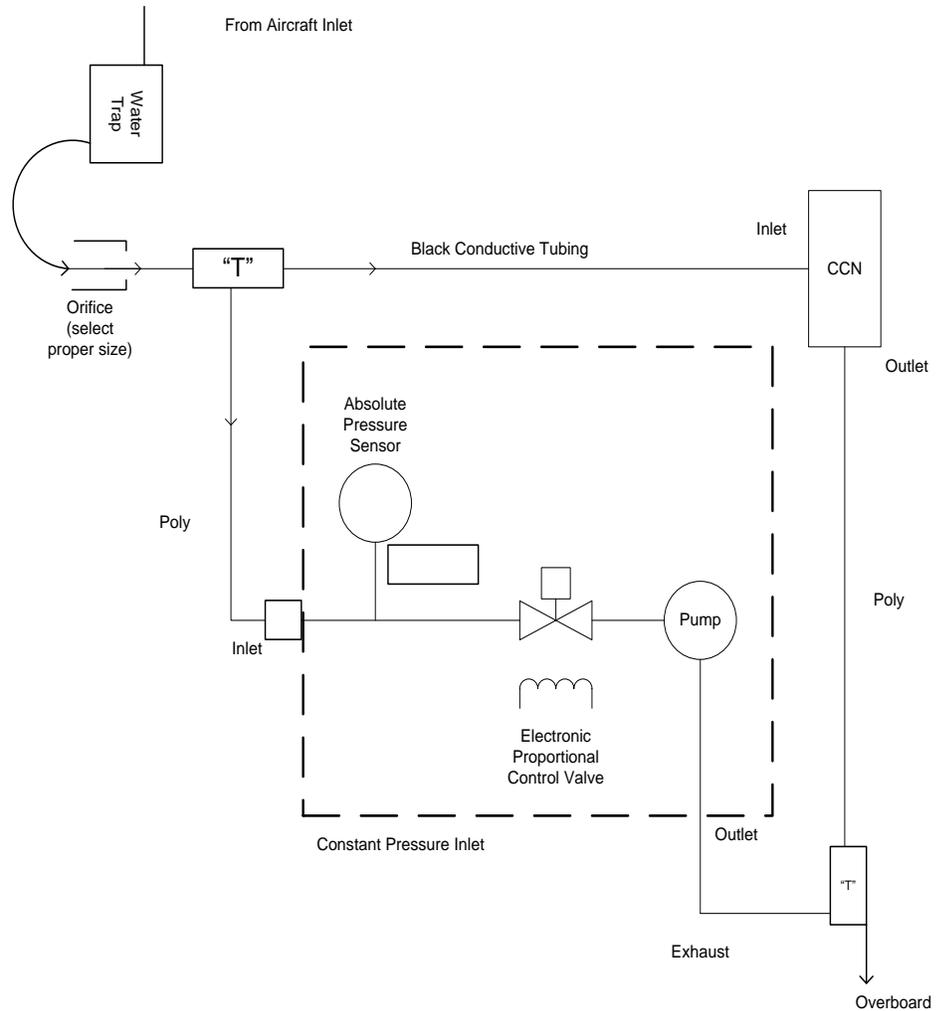
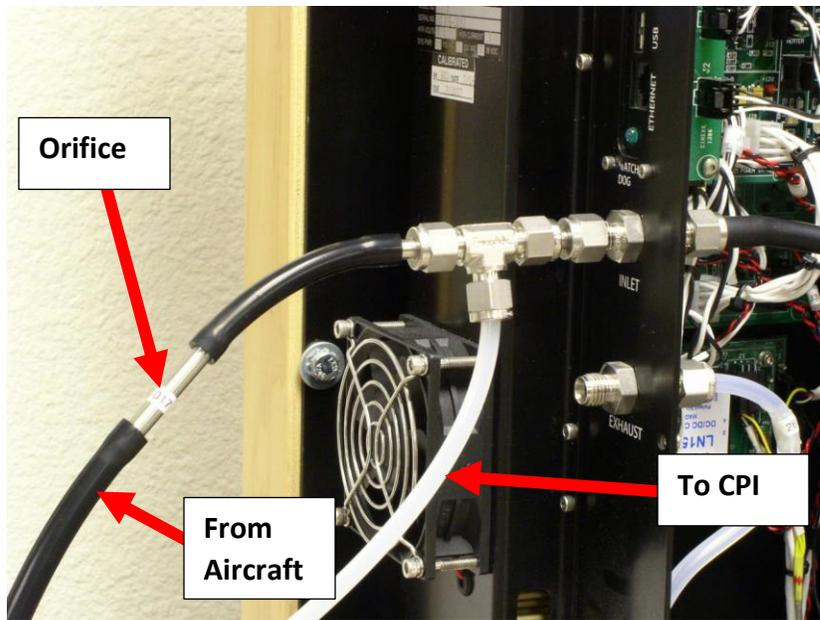
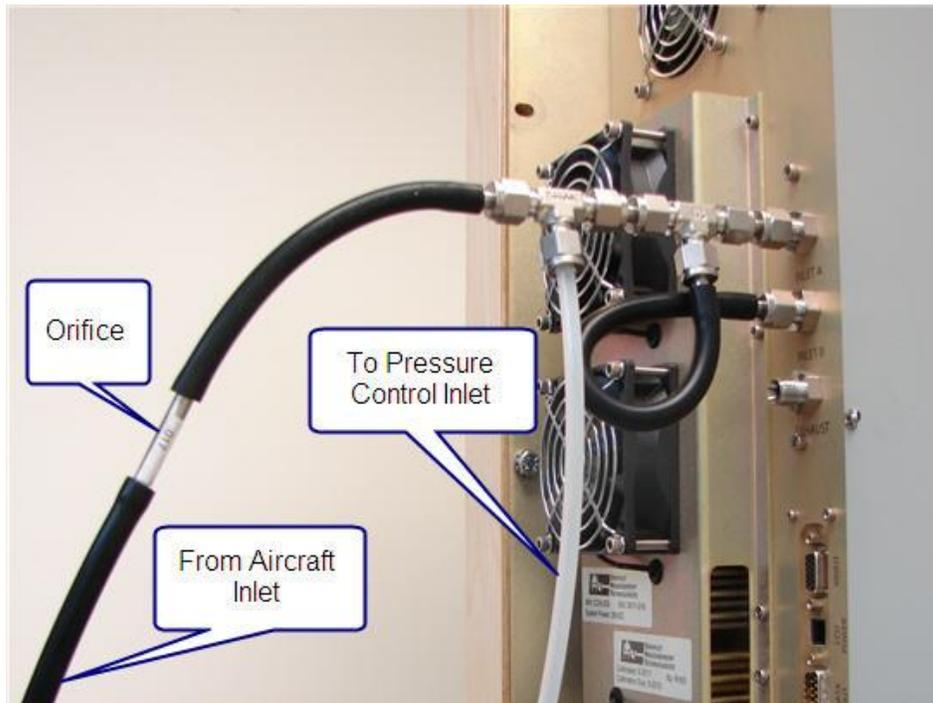

Figure 1: Block Diagram of the CPI Flow System
Figure 4: Inlet Tubing and "T" Attached to **CCN-100** Inlet
Figure 5: Inlet Tubing and "T" Attached to **CCN-200** Inlet
The CPI accessory for operating the CCN on an aircraft has been designed to reduce the pressure in the inlet manifold and operate the CCN at a constant reduced pressure. Figure 1 shows the schematic diagram CPI installed in an aircraft environment in conjunction with a CCN counter. An Orifice on the conductive tubing at the inlet serves to reduce the pressure. The CPI also provides a vacuum in addition to that provided by the CCN counter. An analog feedback loop is used between the set point given by the potentiometer on the front of the control box and the pressure transducer.
Figure 3 shows the standard mounting of the CPI on the CCN. (Mounting hardware for this configuration is provided.) Figure 4 shows a typical inlet assembly connected to a CCN instrument.
1. Install the CPI as shown in Figures 1, 3 and 4 on the CCN. (Consult Figure 5 instead of Figure 4 for a CCN-200.)